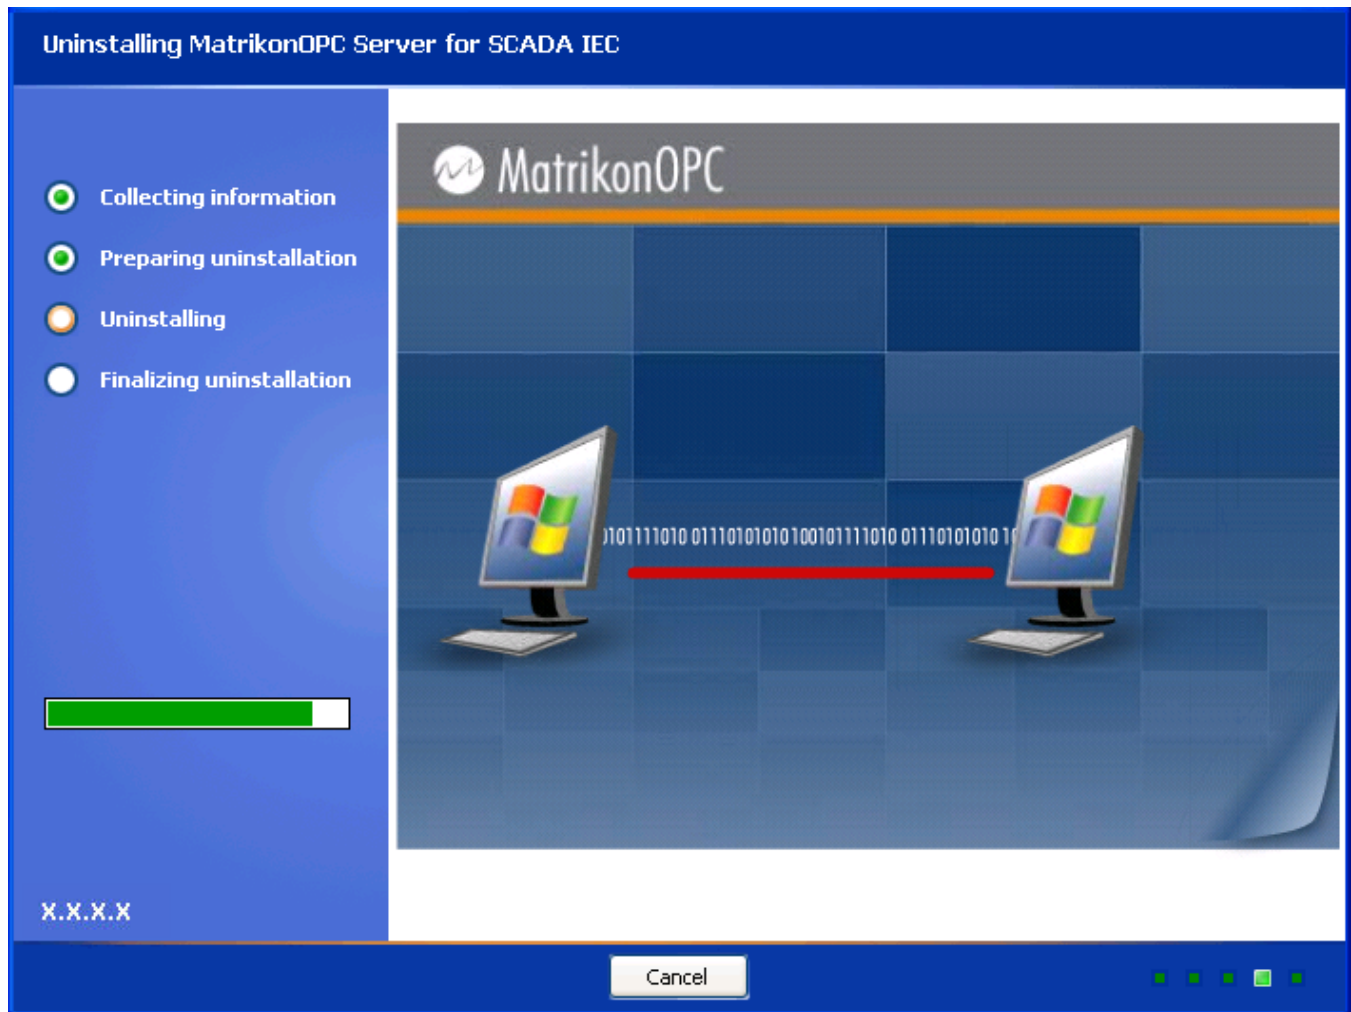

Figure 66 - Uninstalling MatrikonOPC Server for SCADA IEC Screen
10. The **Uninstalling MatrikonOPC Server for SCADA IEC** screen (Figure 66) appears and the un-install takes place.